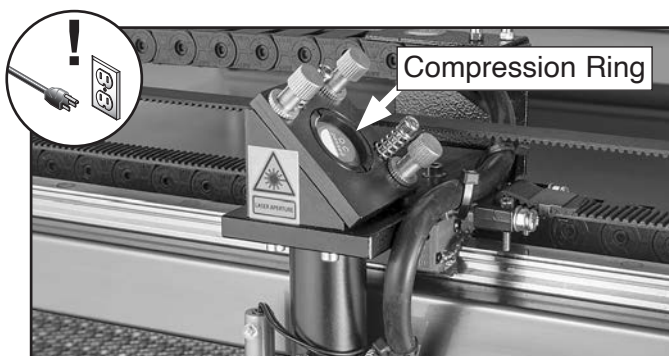

Figure 120. Typical compression ring location.
3. Loosen compression ring behind mirror with optics disassembly tool, then remove (see **Figure 120**).